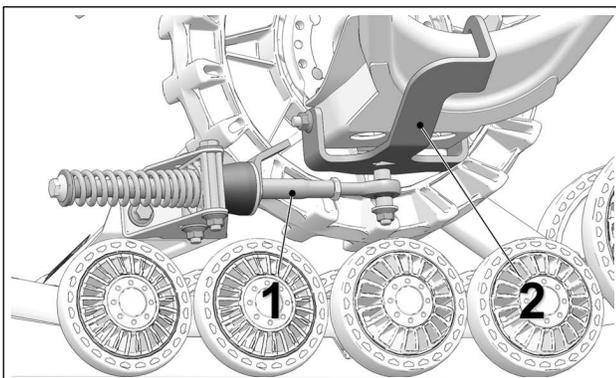

Figure 13
**INDEPENDENT SUSPENSION (IS)**
- Stabilizing arm (1) must be attached to rear anchor bracket (2) installed on vehicle. Figure 13.
*NOTE: Actual Rear Anchor bracket (2) mounted on vehicle may differ from the one in the illustration.*